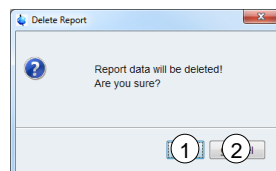

Figure 5-58: Navigation context menu – Delete Report confirmation dialog
Click **Delete Report** (1) in report context menu to delete the selected report. A subsequent confirmation dialog opens up (Figure 5-58).
Click **OK** (Figure 5-58 (1)) to confirm and continue the deletion of the report. Click **Cancel** (Figure 5-58 (2)) to abort the deletion of the report. Deleting a report makes the corresponding Inspection Lot available again. It can be changed or deleted. Deleting all reports of one probe allows deleting the probe from *NMRPT*.